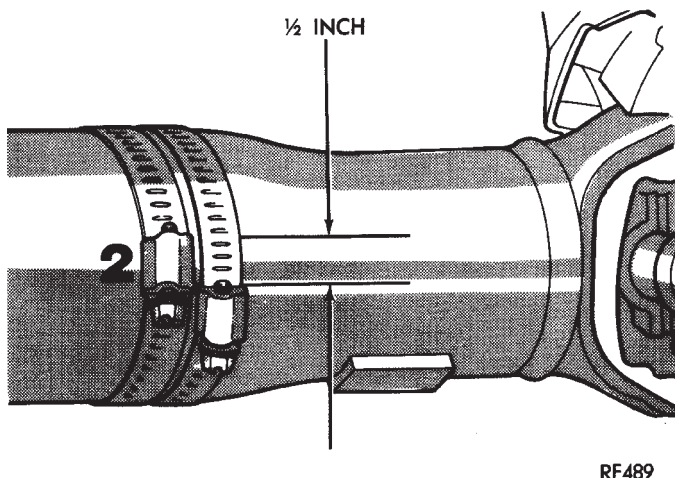

Fig. 8 Clamp Screws Separated
(13) If the additional clamp causes an additional vibration, separate the clamps (1/4 inch above and below the mark). Repeat the vibration test (Fig. 8).